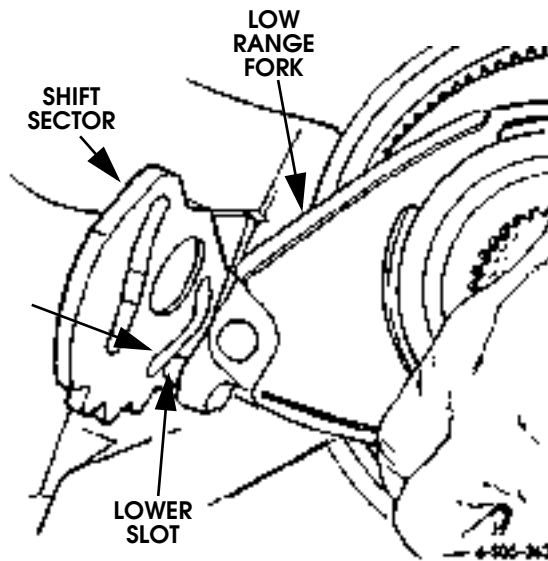

Figure 5-139: Engaging Low Range Fork Pin in Shift Sector
7. Install low range fork and hub. Be sure hub is seated in planetary and that fork pin is seated in shift sector lower slot (Figure 5-139).